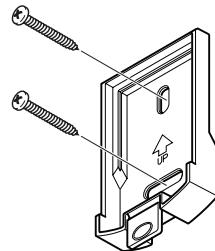

Figure 2
1. Place the mounting plate against the mounting surface and ensure the mounting plate is level. Mark the hole locations (see Figure 2).